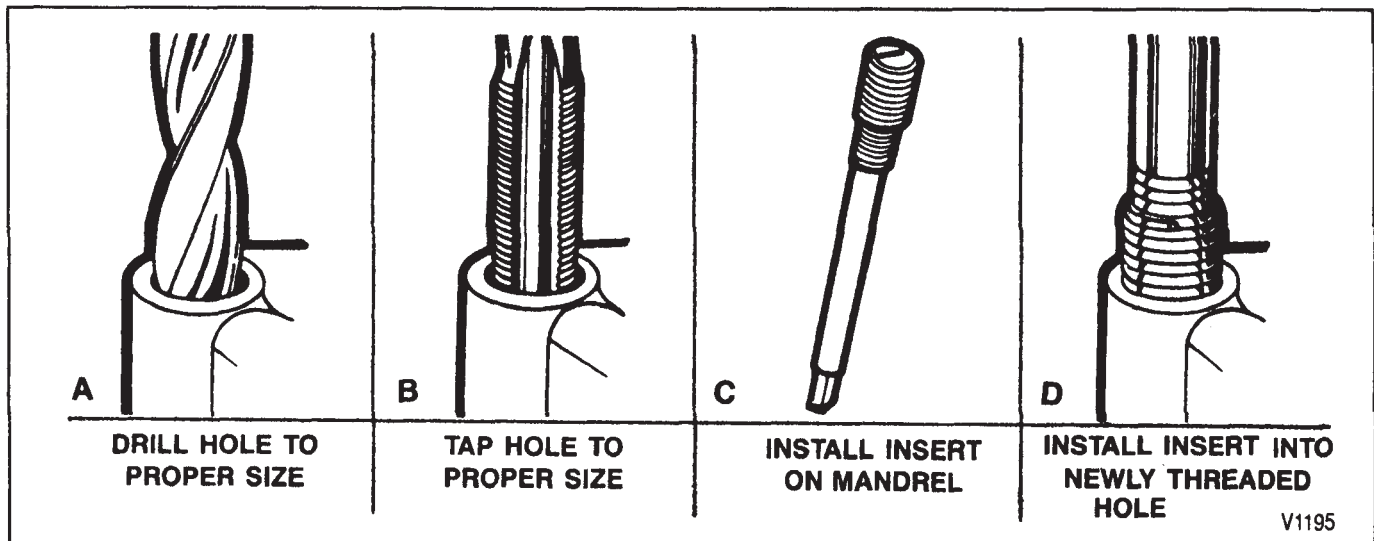

Figure 38—Repairing Thread Holes
4. Thread the thread insert onto the mandrel of the installer (figure 38). Engage the tang of the insert onto the end of the mandrel.